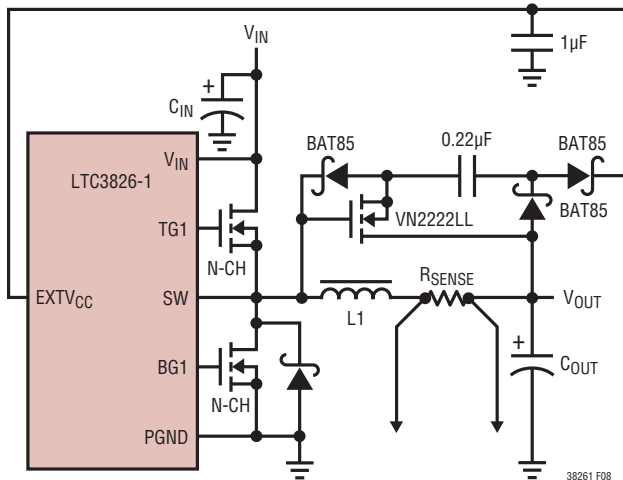

Figure 8. Capacitive Charge Pump for  $EXTV_{CC}$
4.  $EXTV_{CC}$  Connected to an Output-Derived Boost Network. For 3.3V and other low voltage regulators, efficiency gains can still be realized by connecting  $EXTV_{CC}$  to an output-derived voltage that has been boosted to greater than 4.7V. This can be done with the capacitive charge pump shown in Figure 8.